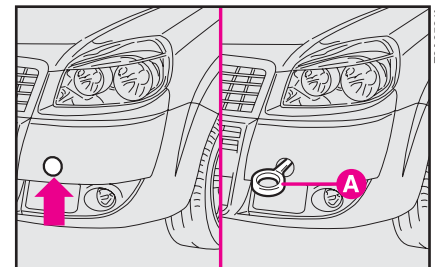

fig. 46
- 2) Remove the flap **fig. 46** on the bumper levering with a screwdriver in the point shown by the arrow.
- 3) Fasten the hitch **A-fig.46** on the threaded pin.